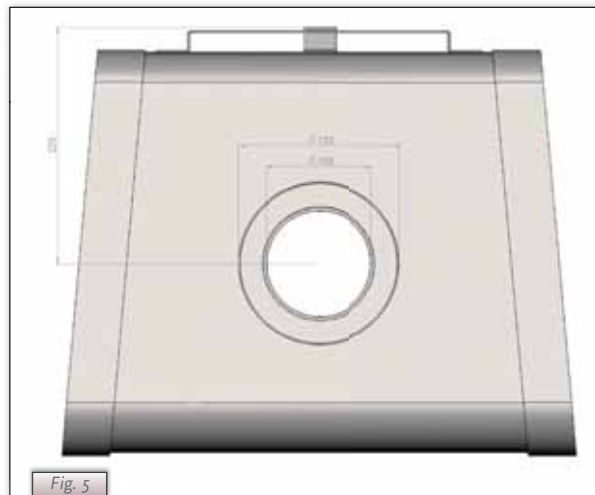

Fig. 5
- Make a duct for the flue gas discharge/combustion air supply system with the following diameters. For details, see section 6.5 and *Fig. 5*.